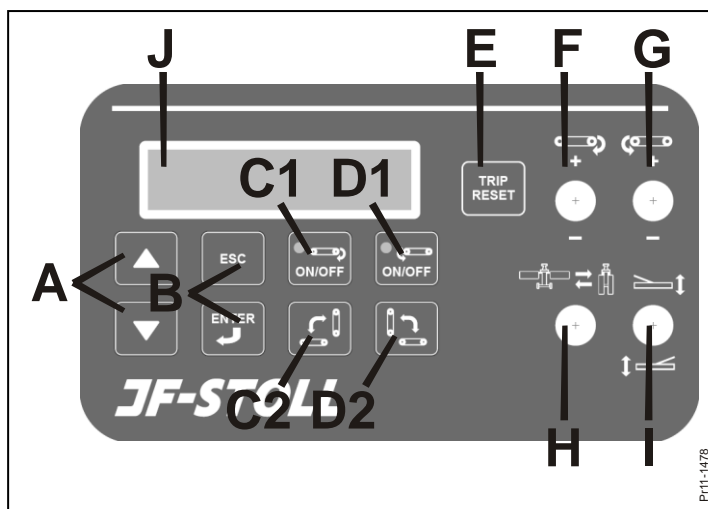

Fig. 3-21
**Fig. 3-21** The control box consists of a number of push-buttons, toggle switches and a display. The electronic control is connected to the cable from the machine and 12 V from the tractor. The control unit is switched on as soon as there is 12 V from the tractor. The cable between the machine and the tractor can be dismantled at the control box in order for the box to stay in the tractor or be brought indoors. It should not be placed on the machine when the machine is stored outside. The end of the cable is placed in the tool box on the machine.